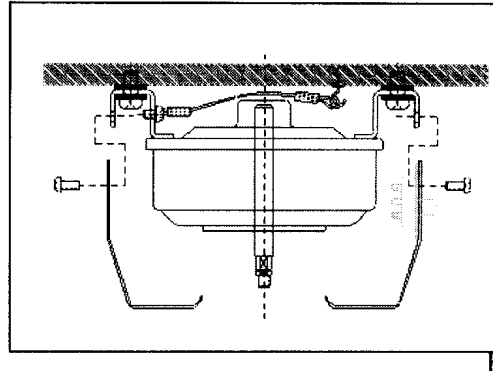

Figure 3
- Position the motor housing to the motor aligning screw holes. See Figure 3